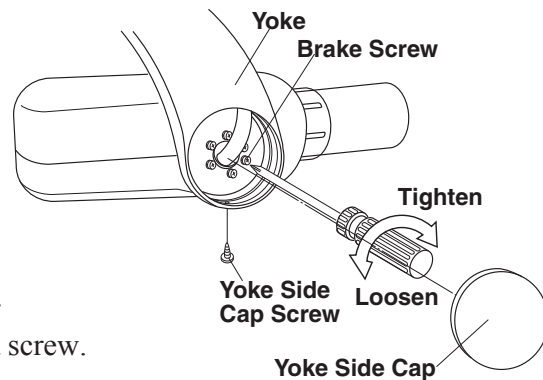

Fig.4-3 Head Positioning
- B. If head drifts from the set position, adjust the brake screws according to the following procedures. (Fig.4-3)